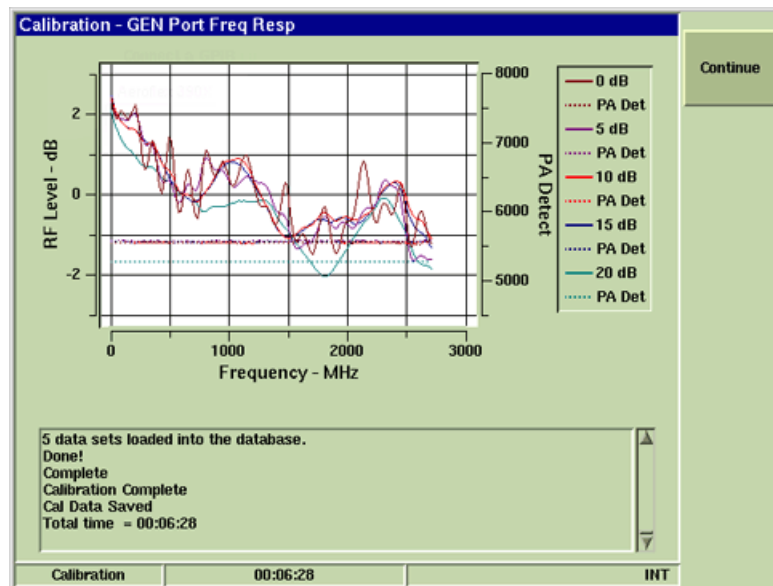

Fig. 4-10 GEN Port Signal Trace
- When the GEN Port Freq Response Calibration Procedure is complete, verify Calibration Complete is displayed in dialog box. Verify the signal traces on the Test Set resemble the signal traces as shown in Fig. 4-10.